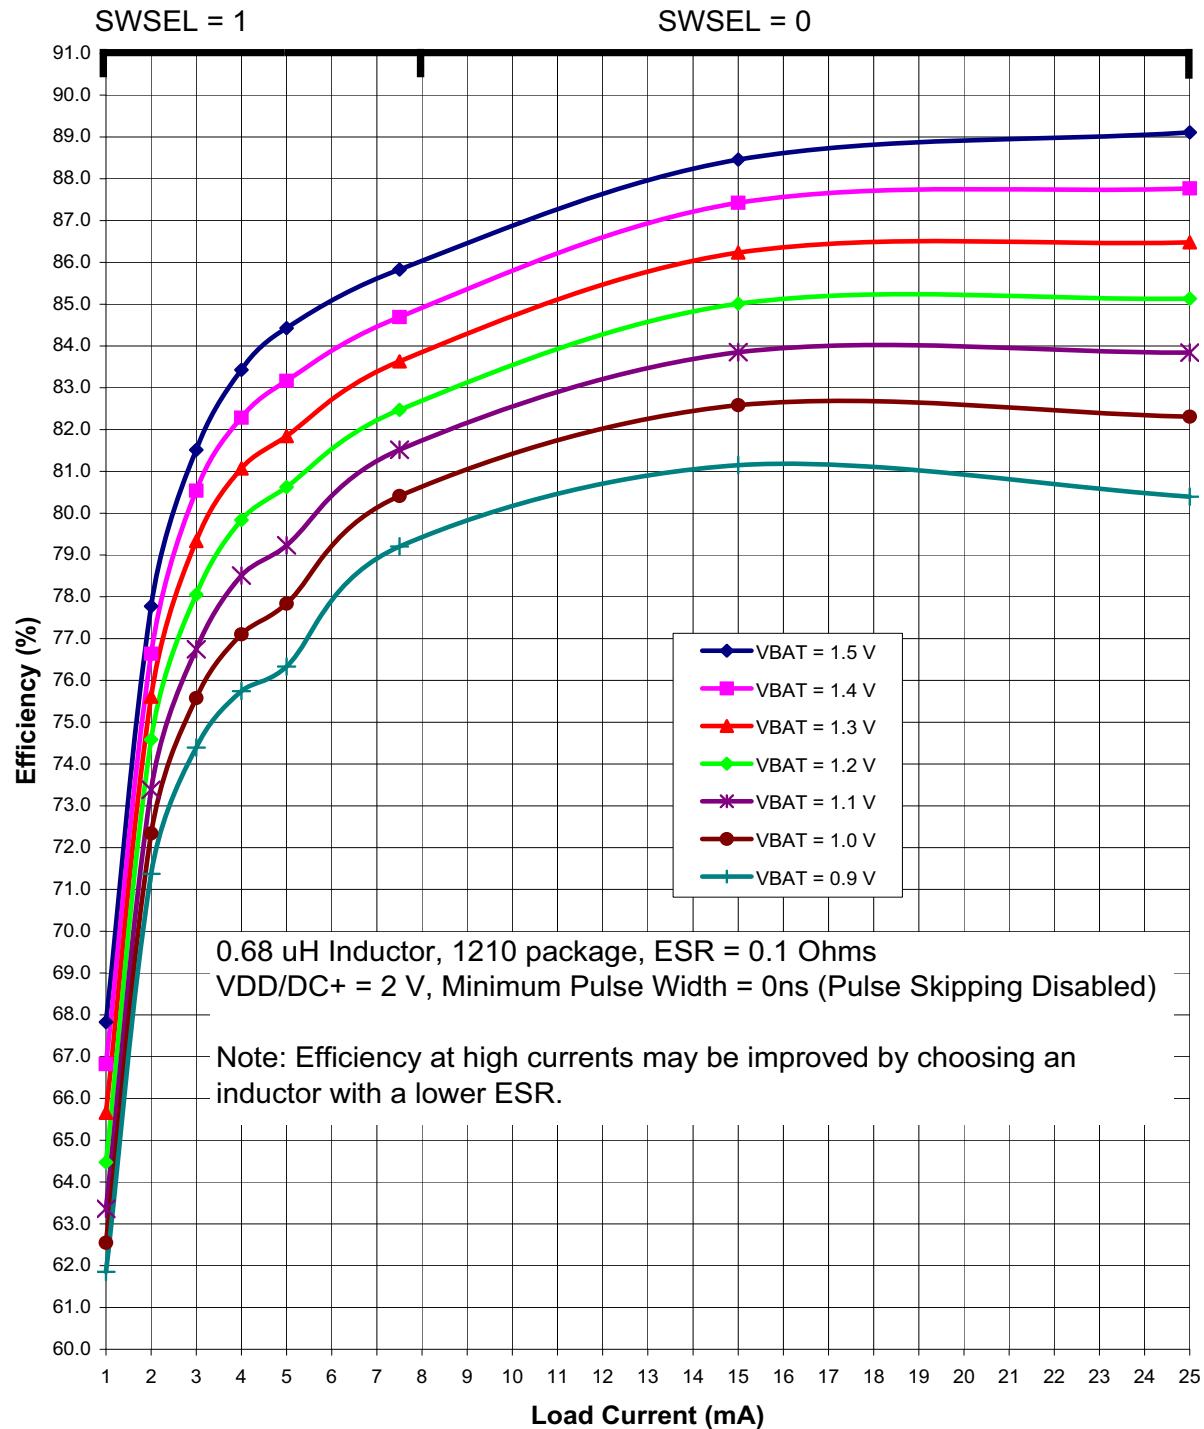
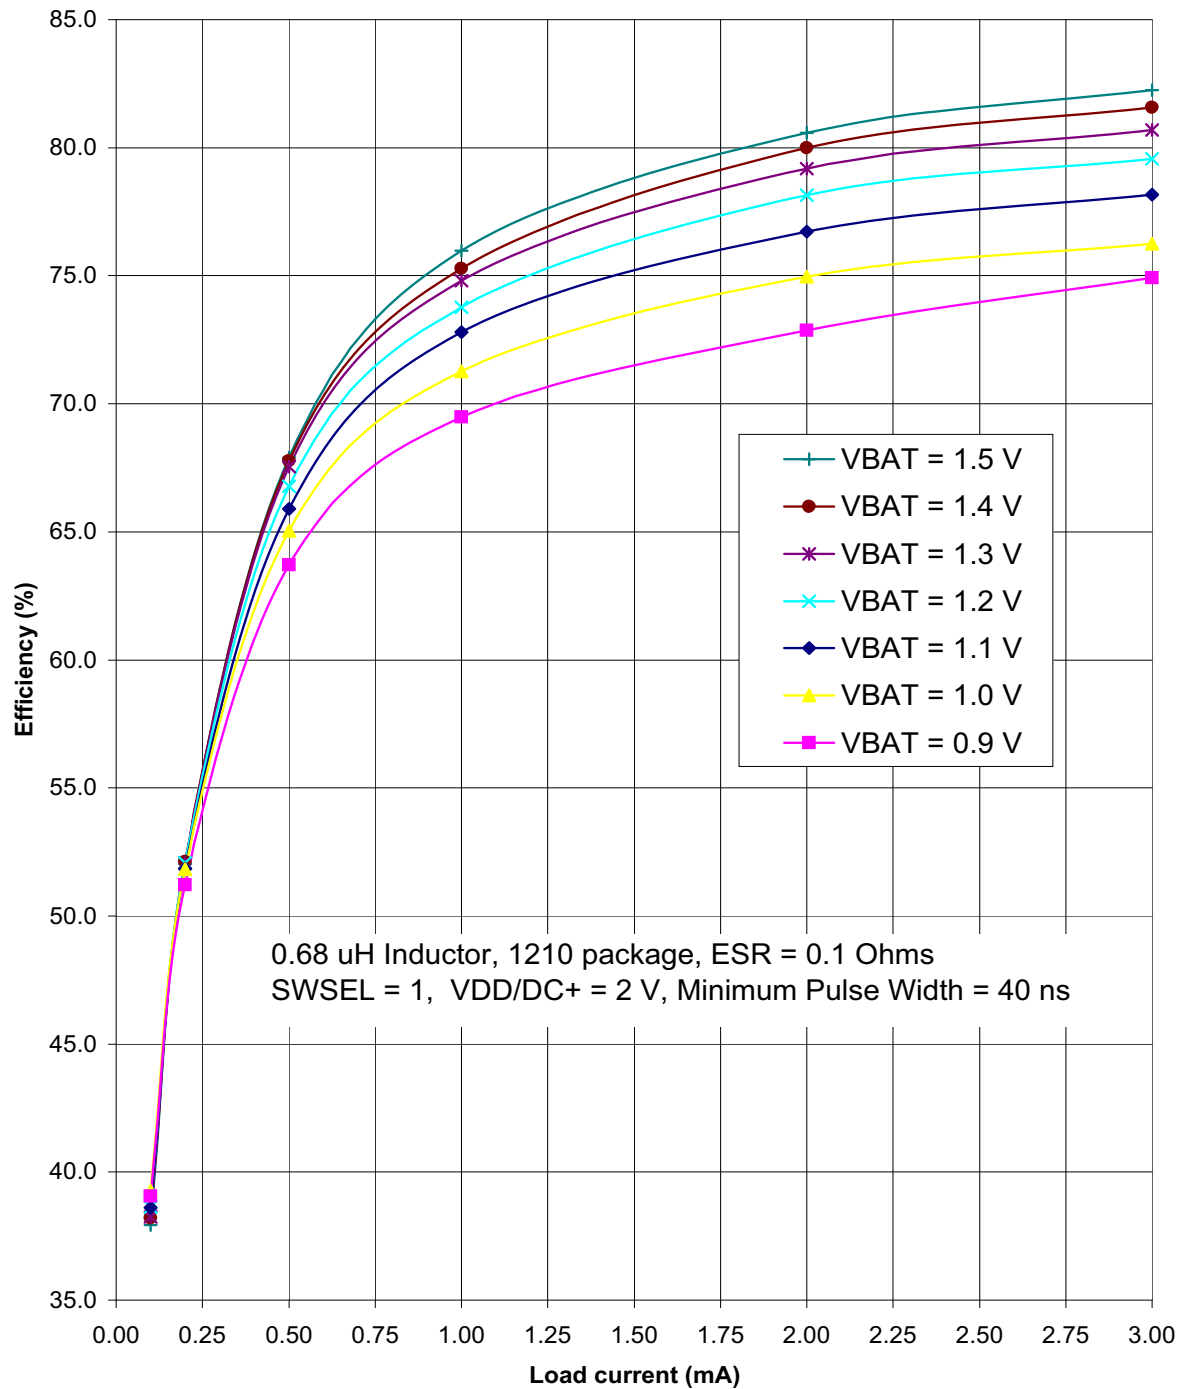

Figure 4.3. Typical DC-DC Converter Efficiency (High Current, VDD/DC+ = 2 V)
Figure 4.5. Typical DC-DC Converter Efficiency (Low Current, VDD/DC+ = 2 V)
Notes: <ol style="list-style-type: none"> Based on device characterization data; Not production tested. SYSCLK must be at least 32 kHz to enable debugging. Digital Supply Current depends upon the particular code being executed. The values in this table are obtained with the CPU executing an "sjmp \$" loop, which is the compiled form of a while(1) loop in C. One iteration requires 3 CPU clock cycles, and the Flash memory is read on each cycle. The supply current will vary slightly based on the physical location of the sjmp instruction and the number of Flash address lines that toggle as a result. In the worst case, current can increase by up to 30% if the sjmp loop straddles a 64-byte Flash address boundary (e.g., 0x007F to 0x0080). Real-world code with larger loops and longer linear sequences will have few transitions across the 64-byte address boundaries. Includes oscillator and regulator supply current. IDD can be estimated for frequencies ≤ 14 MHz by simply multiplying the frequency of interest by the frequency sensitivity number for that range, then adding an offset of 90 μA. When using these numbers to estimate I_{DD} for >14 MHz, the estimate should be the current at 25 MHz minus the difference in current indicated by the frequency sensitivity number. For example: $V_{DD} = 3.0$ V; $F = 20$ MHz, $I_{DD} = 4$ mA – $(25 \text{ MHz} - 20 \text{ MHz}) \times 0.102 \text{ mA/MHz} = 3.5$ mA assuming the same oscillator setting. The supply current specifications in Table 4.2 are for two cell mode. The VBAT current in one-cell mode can be estimated using the following equation: $\text{VBAT Current (one-cell mode)} = \frac{\text{Supply Voltage} \times \text{Supply Current (two-cell mode)}}{\text{DC-DC Converter Efficiency} \times \text{VBAT Voltage}}$ <p>The VBAT Voltage is the voltage at the VBAT pin, typically 0.9 to 1.8 V. The Supply Current (two-cell mode) is the data sheet specification for supply current. The Supply Voltage is the voltage at the VDD/DC+ pin, typically 1.8 to 3.3 V (default = 1.9 V). The DC-DC Converter Efficiency can be estimated using Figure 4.3–Figure 4.5.</p> Idle IDD can be estimated by taking the current at 25 MHz minus the difference in current indicated by the frequency sensitivity number. For example: $V_{DD} = 3.0$ V; $F = 5$ MHz, Idle $I_{DD} = 2.1$ mA – $(25 \text{ MHz} - 5 \text{ MHz}) \times 0.079 \text{ mA/MHz} = 0.52$ mA.